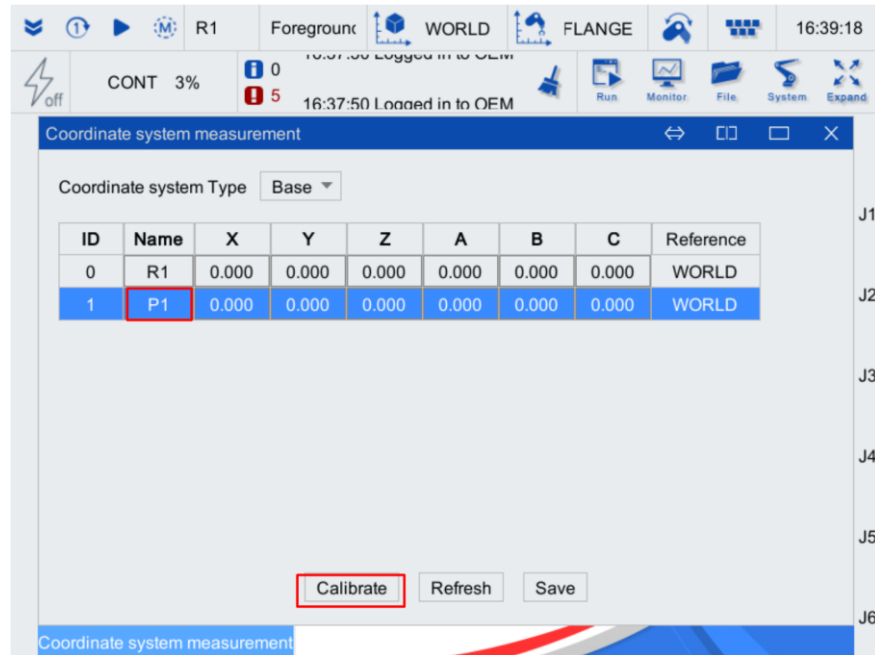

Figure 5-9 Base coordinate system calibration interface
Step 4. The interface shown in Figure 5-9 pops up, and select "Base Coordinate System" in [Coordinate System measurement]. Click to select the row where "P1" is located, and click <Calibration> to pop up the [Positioner Calibration] interface.